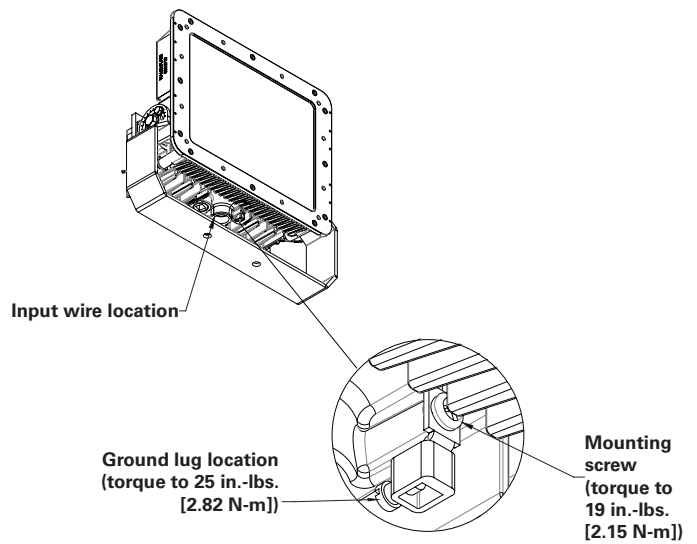

Figure 5
1. Unscrew the ground lug fastener shown in Figure 5.
3. Torque ground lug fastener down on ground wire. Torque to 25 in.-lbs. [2.82 N-m], as shown in Figure 5.